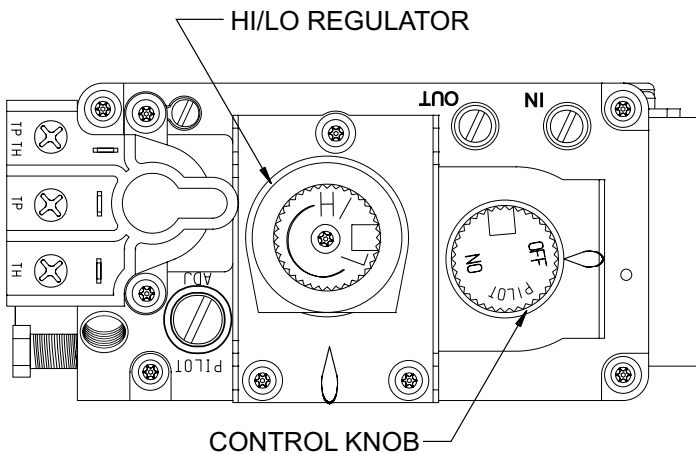

Figure 49
**NOTE:** The gas control valve allows you to increase or decrease the height of the main burner flame. The control valve has a pressure regulator with a knob as shown in Figure 49. Rotate the knob clockwise to “HI” to increase the flame height and counterclockwise to “LO” to decrease the flame height.